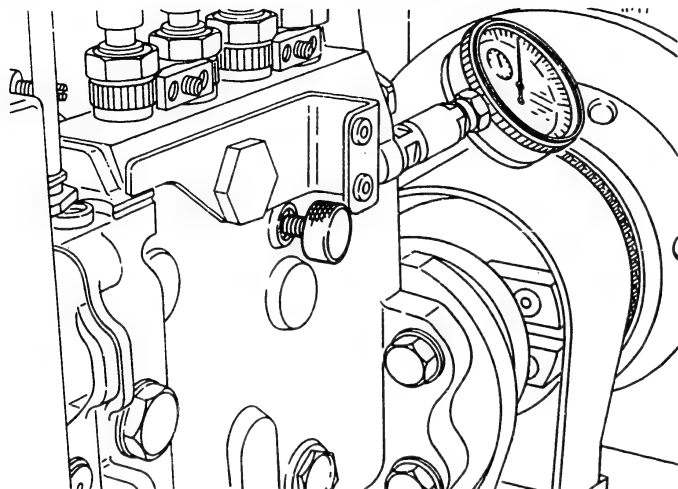

Fig. 184 Locking the control rack
- Using a screw lock the control rack at the position given with the calibration data, maintaining the pump speed at 0 rpm. (Figs. 184 and 185)